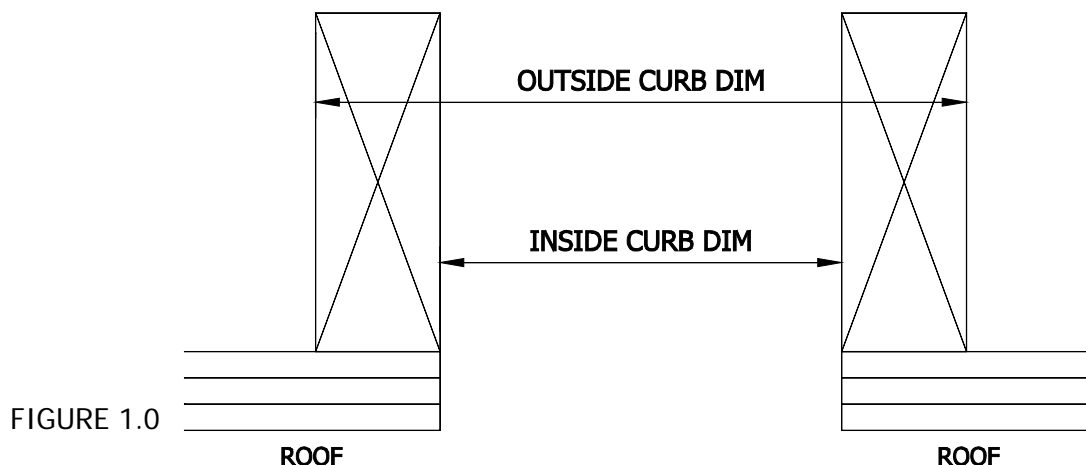

FIGURE 1.0
- Prepare the roof opening per the manufacturer's dimensions. Most of the time the dimensions will be called out as both outside and inside curb dimensions (OCD and ICD) (See Figure 1.0). Remember to take into account the thickness of the curb. Most are 1.5" or 2" but they do vary.